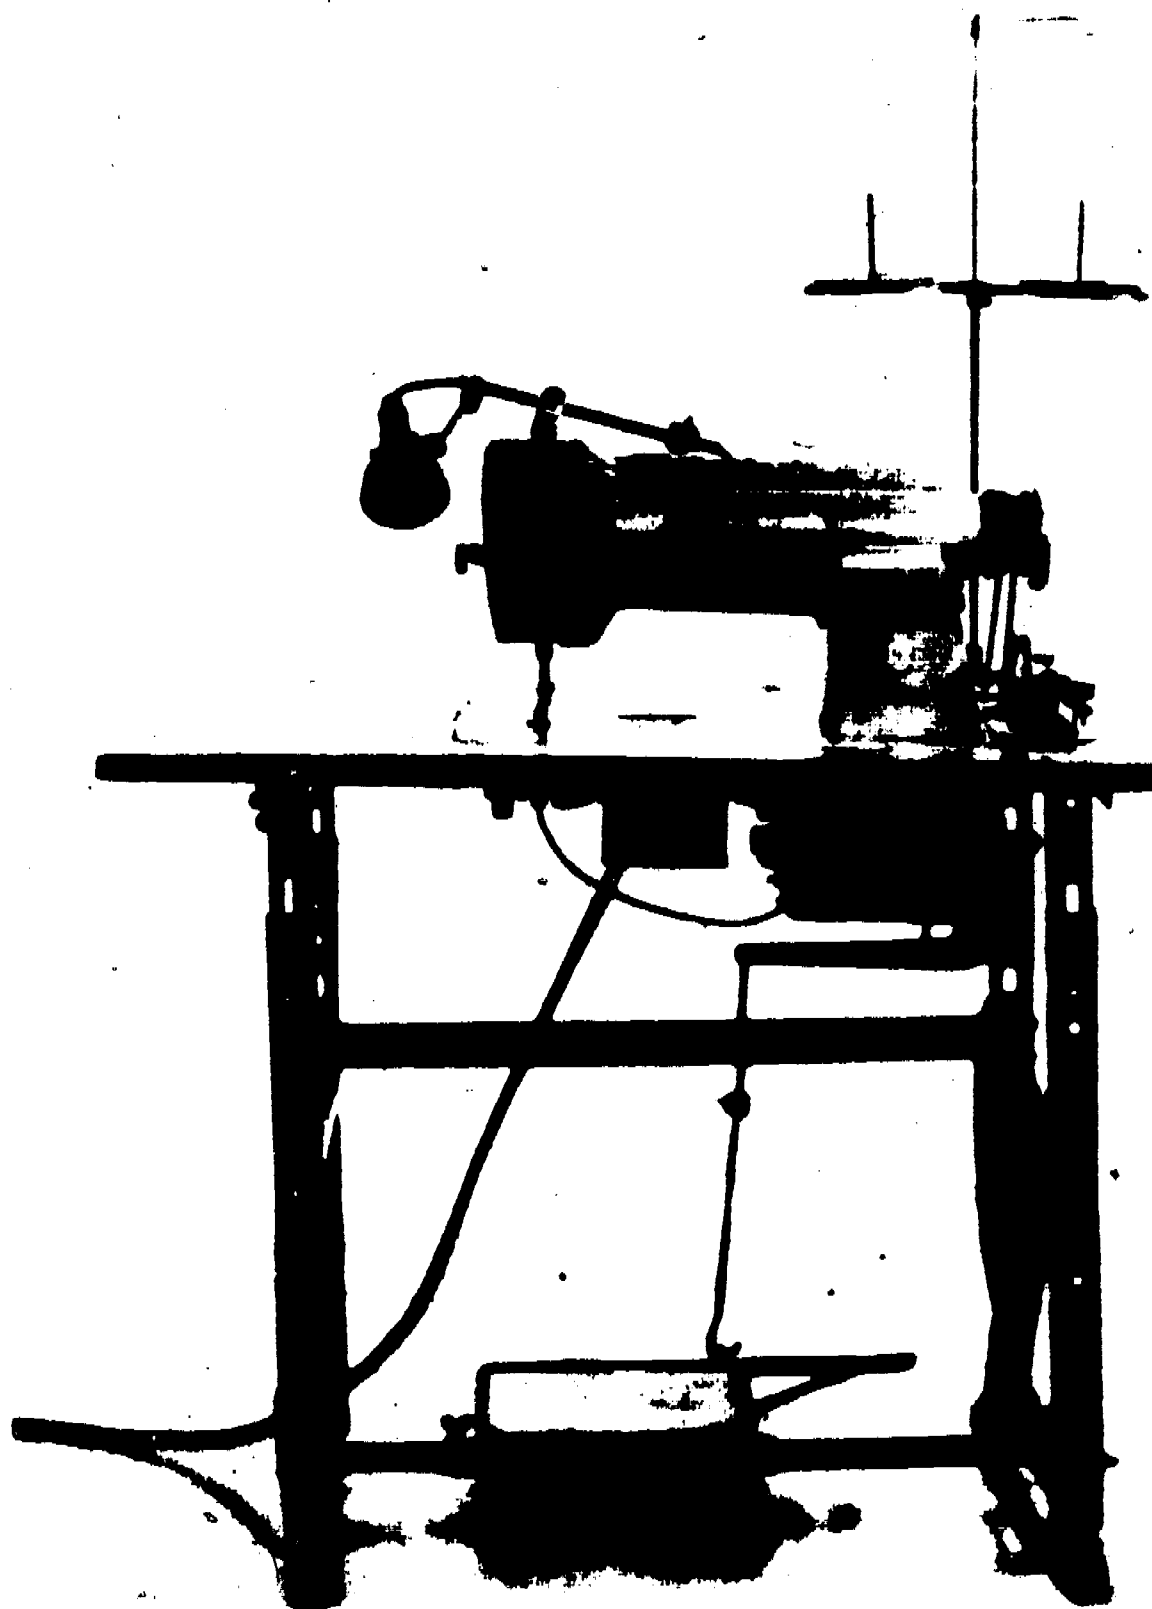

Figure 60 A (Medium Duty Sewing Machine)
D. Medium Duty Sewing Machines. (Fig 60 and 60A)